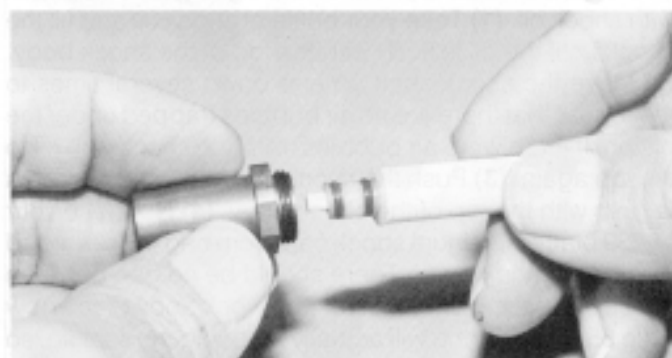

Fig. 51
□ **Fig. 51** (1) Take the shock body and the shock tool, with the internal parts on it, and slowly insert the tool into the shock body until it bottoms out and all of the parts are fitting into the cavity. If everything goes in smoothly this will allow the tip of the shock tool to be even with or just slightly out of the bottom of the shock body. If not, you may need to rotate the shock body to help it seat the parts the rest of the way into the shock cavity. (2) Now stand the shock tool on your workbench, with the shock body on top, and firmly push down on the shock body until you hear and feel the split washer snap into its groove. The new parts are of a harder material so you must push hard before it will go in. When the parts are properly installed, the end of the shock tool should be sticking out the bottom of the shock just about 1/8". (3) Once the parts have been properly snapped into place, pull the tool out. (4) Look inside the shock body for any obvious signs that the parts did not go together correctly. **MAKE SURE THE SPLIT WASHER IS FULLY SEATED IN ITS GROOVE. IF THE PARTS ARE NOT SEATED CORRECTLY, THE SHOCK WILL LEAK OR EVEN COME APART INSIDE THE SHOCK.**